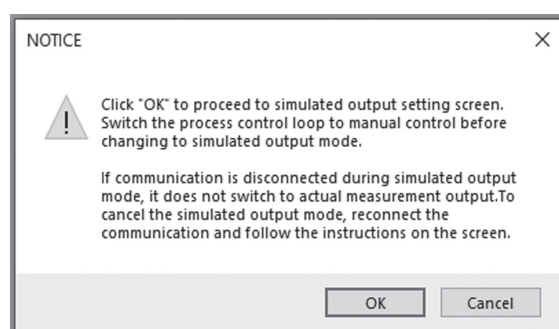

Fig.131
- ① When "Diagnosis/Service (T)" > "Loop test" > "Fix Status output" in the menu are clicked, a message box (Figure 131) appears. Then, after confirming that the process control loop has been switched to manual, click the "OK" button.